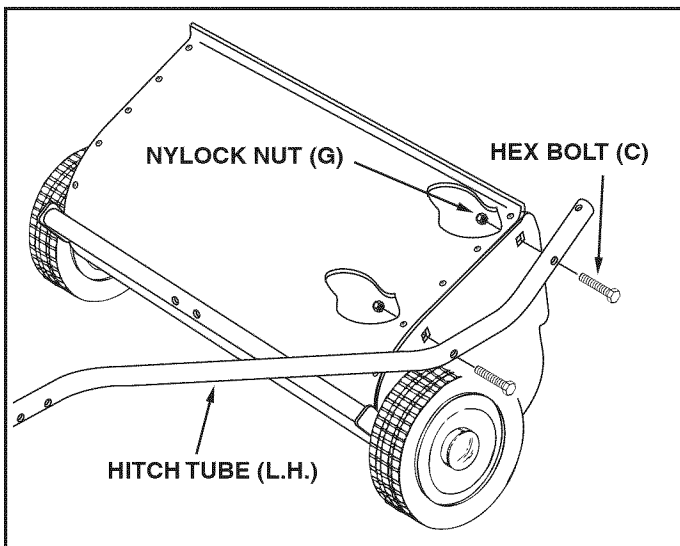

FIGURE 1
- (1) 7/16" Wrench
- (2) 1/2" Wrenches
- The hitch tubes are stamped with a "77L" for the left tube and a "76R" for the right tube. The sweeper housing is marked with an "L" on the left with side and an "R" on the right side. See figure 1.
- Hold the left hitch tube against the left side of the sweeper so that the "77L" on the tube faces **away** from the sweeper. Attach the hitch tube using two hex bolts (C) and nylock nuts (G). Repeat for the right hitch tube, but with the "76R" facing in toward the right side of the sweeper. **Do not tighten yet.** See figure 1.